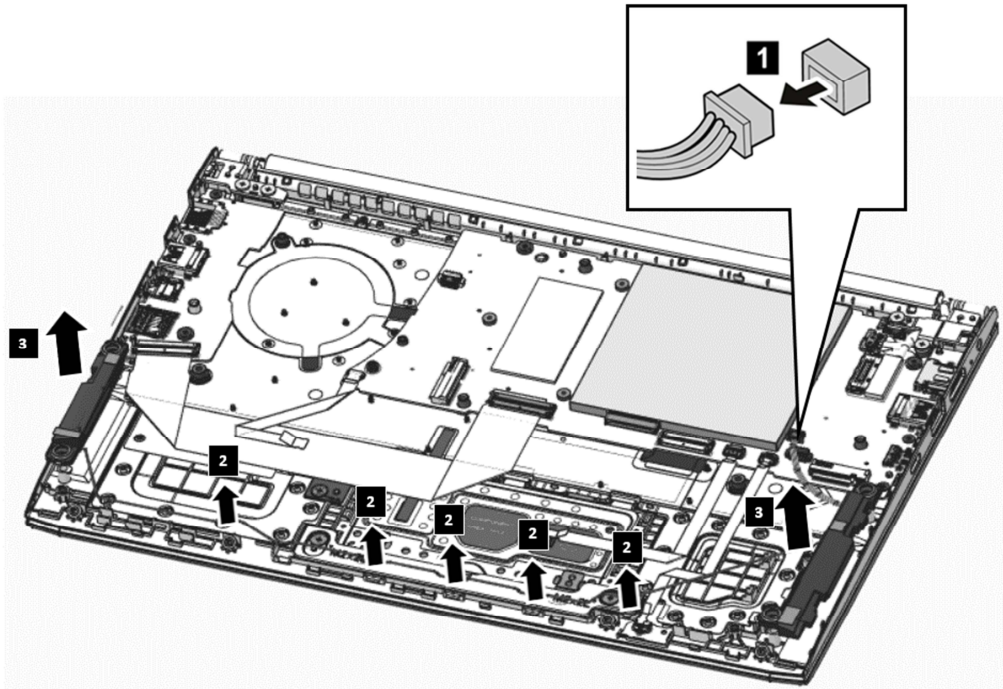

Figure 4-8 Removing the Speakers
Remove the speaker assembly according to the following procedures and Figure 4-8.
1. Seat the speakers in the correct position and secure it in place on the logic upper assembly  ,3 as shown in Figure 4-8.
3. Connect the speaker cable to the motherboard  ,1 as shown in Figure 4-8.